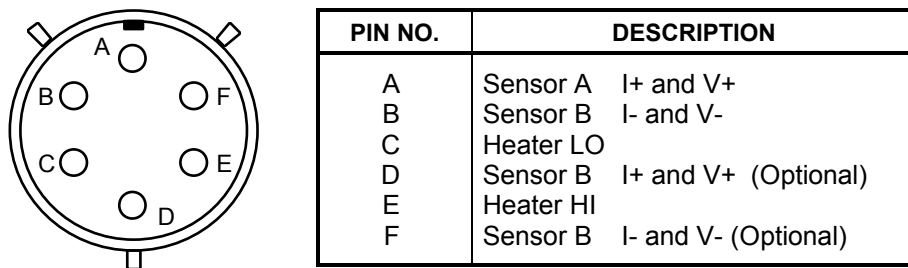

Figure 1-5 10-Pin Instrumentation Feedthrough Connector
INSTRUMENTATION FEEDTHROUGH CONNECTOR: The 6-pin Instrumentation Feedthrough Connector is located on the main body of the cryostat. Temperature control and measurement electrical connections are made through the o-ring sealed electrical feedthrough. Only 4 of the 6 pins are used in a standard Model MTD-120 Installation. This allows for future installation of additional instrumentation leads. See Figure 1-5 for connector definition.
11. To connect Customer instrumentation to the DUT signal lines, connect appropriate cables to four 34-pin feedthrough connectors on vacuum chamber base plate. Connectors are labeled A, B, C, and D. A typical 340-pin connector is illustrated in Figure 1-5. The MTD-120 is now ready to perform tests.
- Although the instrumentation connectors have 34 pins, there are only 17 signal lines per connector. Twenty-five signal lines times four connectors equals the one hundred connections on the fanout board. When viewing the instrumentation connector as shown in Figure 1-5, the inner row of 17 pins for signals from the DUT. The outer row of 17 pins has connections for the shields. The shield pin corresponds to the signal pin directly adjacent to it.